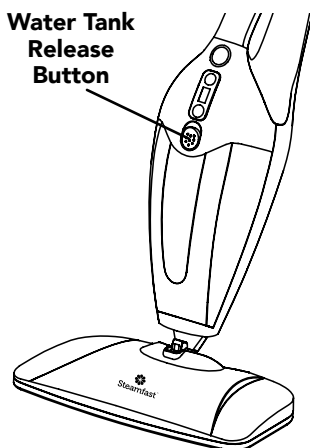

FIGURE 1
1. Slide the Water Tank Release Button upward (Figure 1) and hold as you remove Water Tank. Pull Water Tank upwards and towards you to remove.